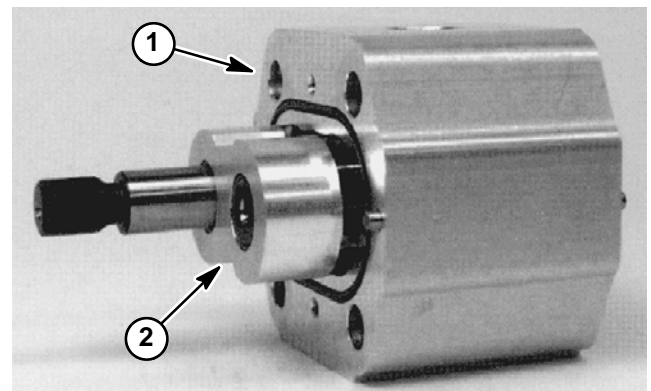

Figure 49
7. Place the motor on its side and push on the rear bearing block to remove the bearing block and gear set (Fig. 49).